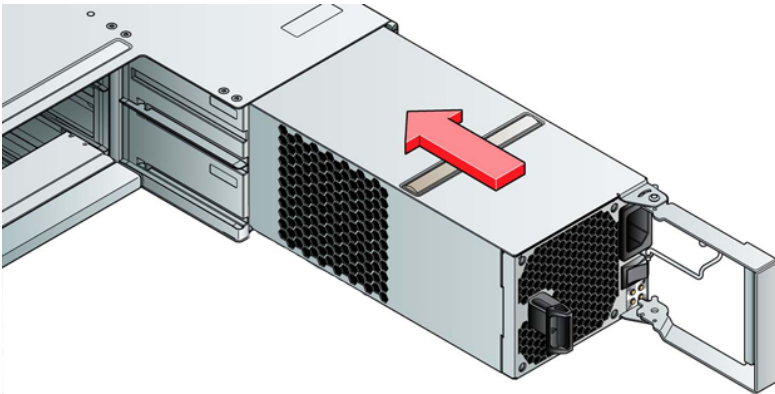

Figure 6-3 - Installing a PCM (1)
2. With the PCM handle in the open position, slide the module into the enclosure (Figure 6-3).